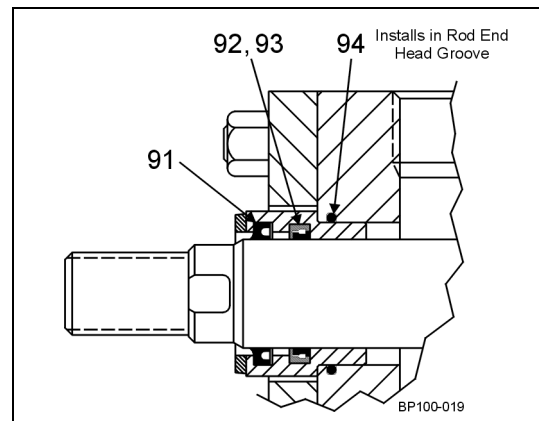

Figure 9 - Head End O-ring Seal
8. Install wiperseal (Figure 9, item 91) in groove closest to end of gland.
9. Slightly collapse backup washer (Figure 9, item 93) and install lipseal (Figure 9, item 92) in seal groove. Ensure wiperseal is flat against wall of groove. Lips of seal should point toward long bearing side of gland.
! *NOTE: Supplied with each rod gland and seal kit, o-ring (Figure 9, item 94) serves as a seal between gland and head. O-ring is a static seal and does not normally require replacement. Original o-ring may be left in place, unless known to be leaking (fluid flow around gland thread).*
3. Thread gland into retainer until seated firmly against head. Gland-to-head o-ring (Figure 9, item 94) serves as a torque prevailing lock.